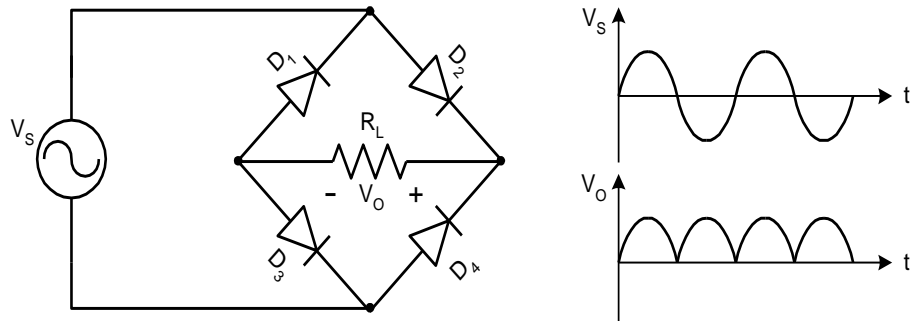

Figure 3.2: Bridge rectifier
1. Connect the circuit in breadboard as shown in Fig: 3.2 without capacitor.